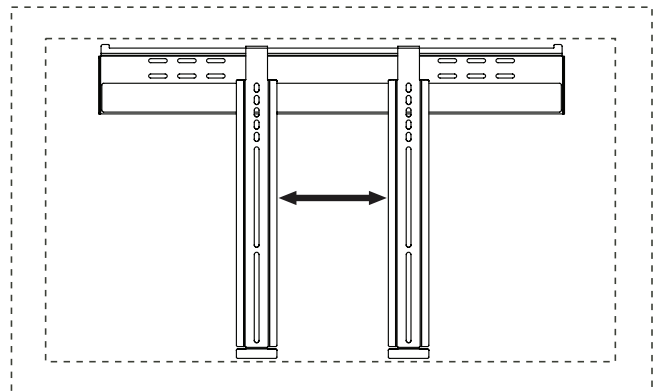
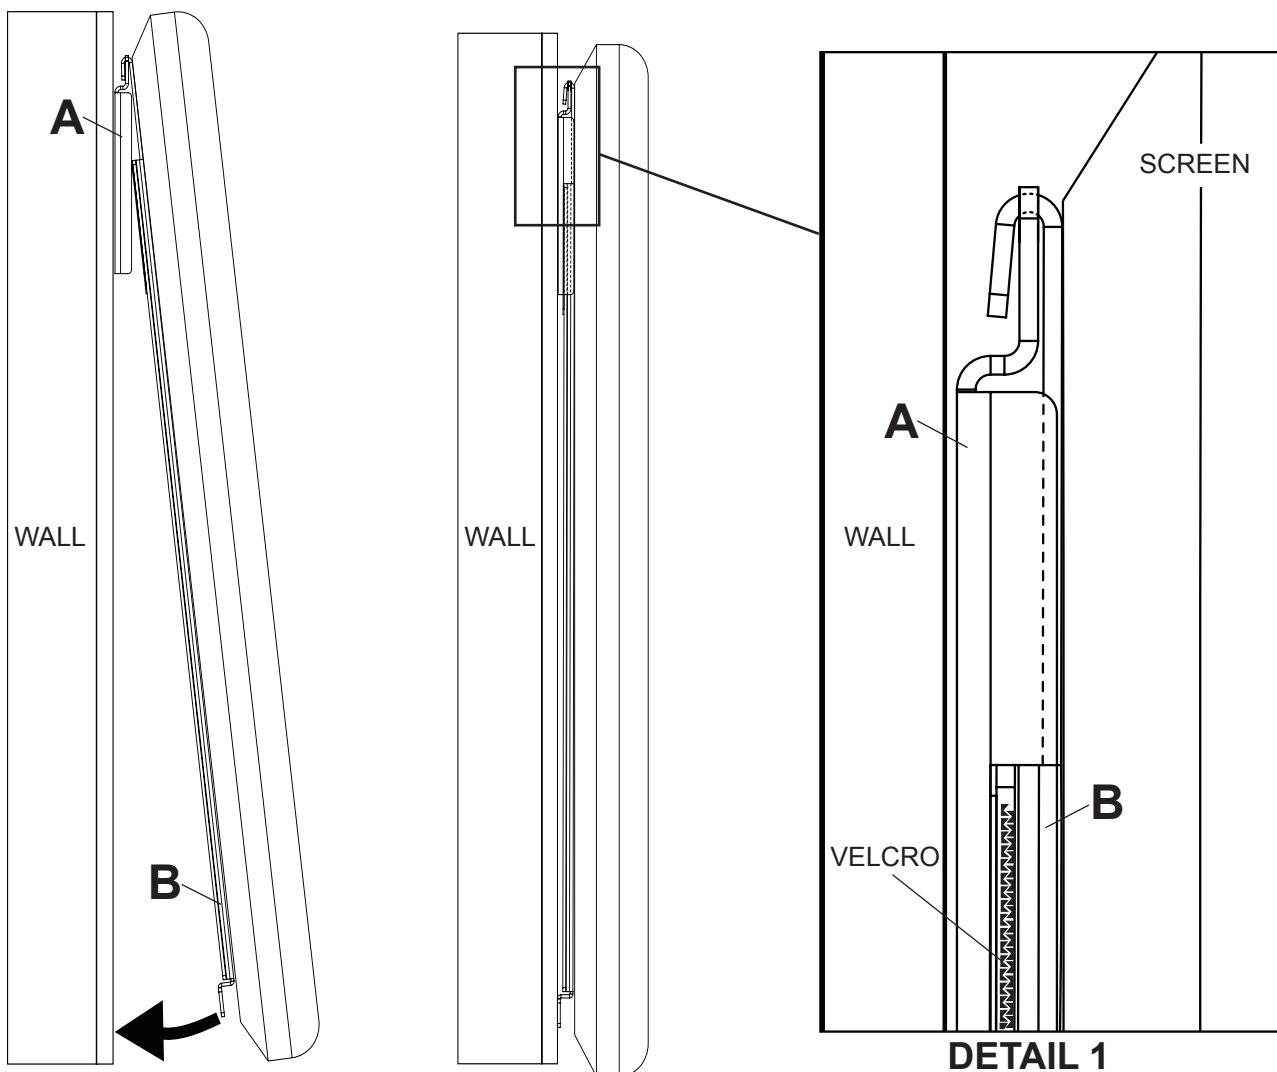

fig. 3.2
fig. 3.1
**3** Guide hooks of adapter brackets (**B**) onto flange of wall plate (**A**). Then slowly swing screen toward wall as shown in fig. 3.1. Gently press on screen to ensure velcro strips are engaged as shown in detail 1. Screen can be adjusted horizontally if desired as shown in fig. 3.2. To remove screen from mount, swing screen away from mount, and lift screen off of mount.